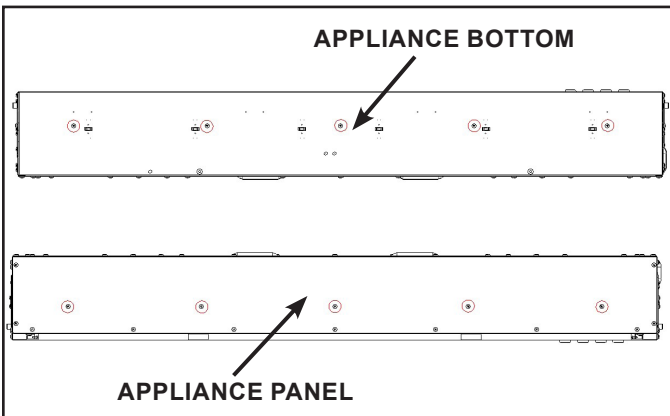

Figure 7 Remove Screws - Appliance Top and Bottom
6. Remove screws on top and bottom of the appliance. See Figure 7. Screw quantity varies by model.